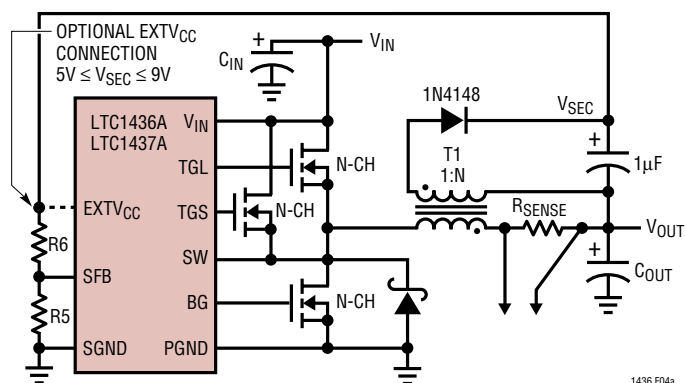
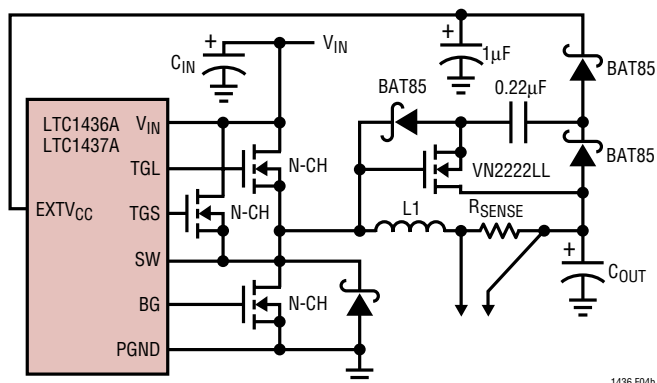

Figure 4a. Secondary Output Loop and EXT_{V_{CC}} Connection
Figure 4b. Capacitive Charge Pump for EXT V_{CC}
3. EXTV_{CC} connected to an output-derived boost network. For 3.3V and other low voltage regulators, efficiency gains can still be realized by connecting EXTV_{CC} to an output-derived voltage which has been boosted to greater than 4.8V. This can be done with either the inductive boost winding as shown in Figure 4a or the capacitive charge pump shown in Figure 4b. The charge pump has the advantage of simple magnetics.
The secondary output voltage is set by the turns ratio of the transformer in conjunction with a pair of external resistors returned to the SFB pin as shown in Figure 4a. The secondary regulated voltage V_{SEC} in Figure 4a is given by: